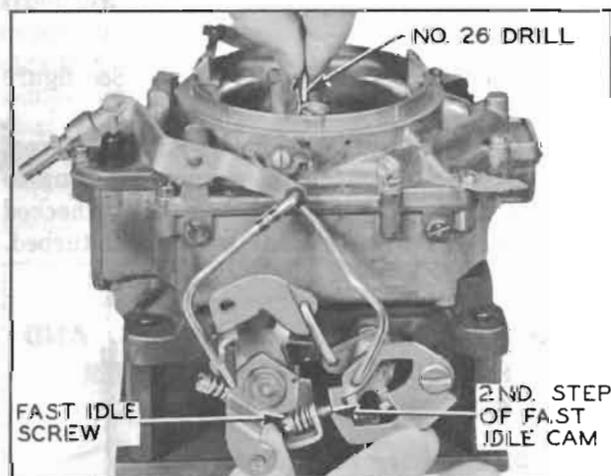

Figure 3-82—Checking Fast Idle Cam Adjustment
2. Close throttle so that fast idle screw contacts second step of fast idle cam with side of screw against rise to high step of cam, then check clearance between choke valve and air horn dividing wall using a No. 26 drill (.147"). See figure 3-82.